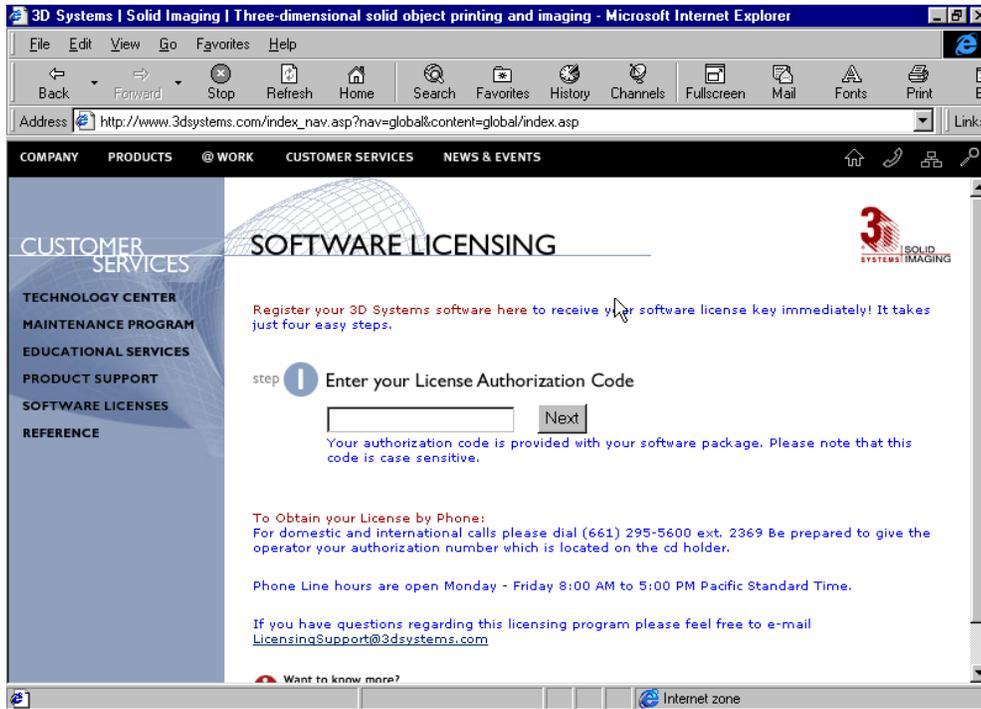

Figure 14. You obtain your software license on line via 3D Systems' Corporate Website.
7. **Follow** the instructions for licensing your software under “Customer Services”, “Software Licenses.” See Figure 14.